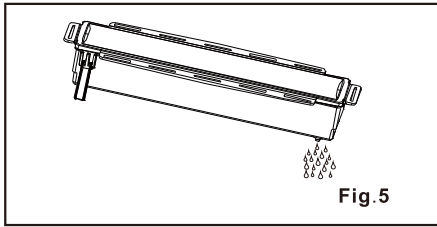

Fig.5
4. Open the cover, remove the filter box (drain water inside by tilting it) from the pipe. (Refer to Fig. 5)